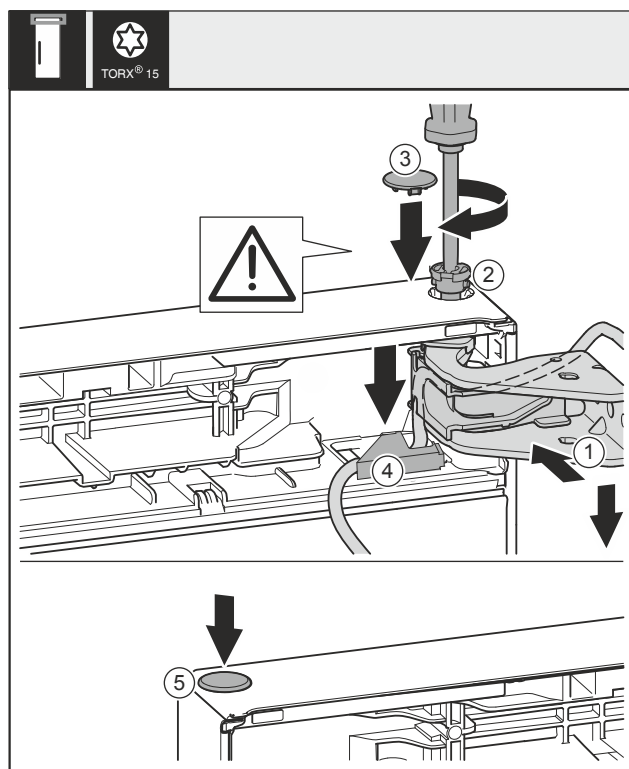

Fig. 45
- ▶ Align the top door with the opening in the swap bearing block Fig. 45 (1).
- ▶ Insert the bolt Fig. 45 (2) and use screwdriver to tighten it.
- ▶ Fit the safety cover to secure the door: Insert the safety cover Fig. 45 (3) and check whether the door is resting on it. Otherwise, insert the bolt fully.
- ▶ Insert the cover Fig. 45 (4) and push down until it engages.
- ▶ Insert the plug Fig. 45 (5).